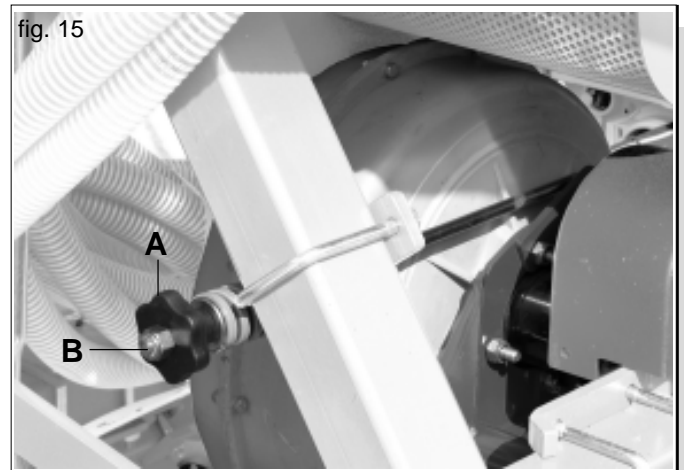
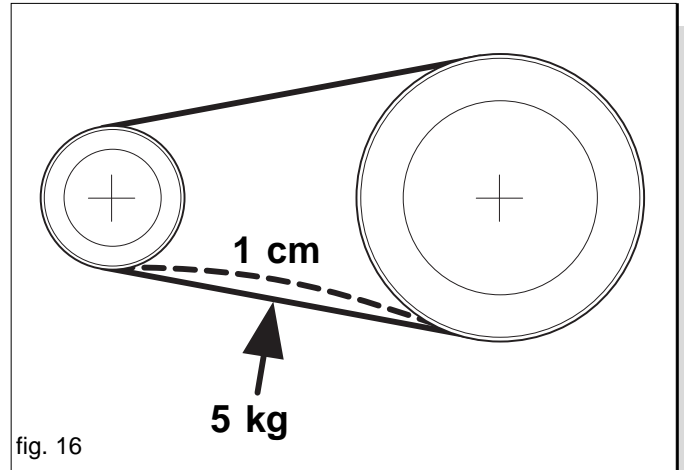

fig. 15
fig. 16
- 2) Regulate belt-tension using handwheel "A" (Fig. 15). Press on the middle part of the belt between the two pulleys with a 5 Kg force. Each belt should give max. 1 cm (Fig. 16). To change belts remove belt tension completely with using handwheel. (A Fig. 15).
Caution: Never take off nut "B"! (Fig. 15)
- 1) Slacken the belts using the handwheel (A Fig. 15), remove the guards (A, B Fig. 11) and take out the drive belts.